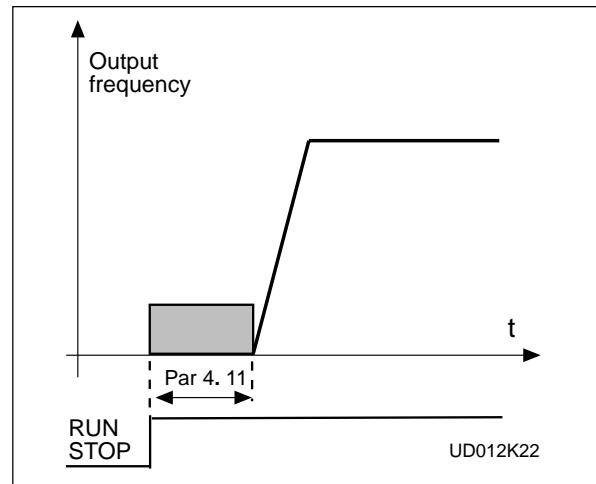

Figure 4.5-15 DC-braking time at start
- >0** DC-brake is activated when the start command is given and this parameter defines the time before the brake is released. After the brake is released output frequency increases according to the set start function parameter 4. 6 and acceleration parameters (1. 3, 4. 1 or 4. 2, 4. 3), see figure 4.5-15.